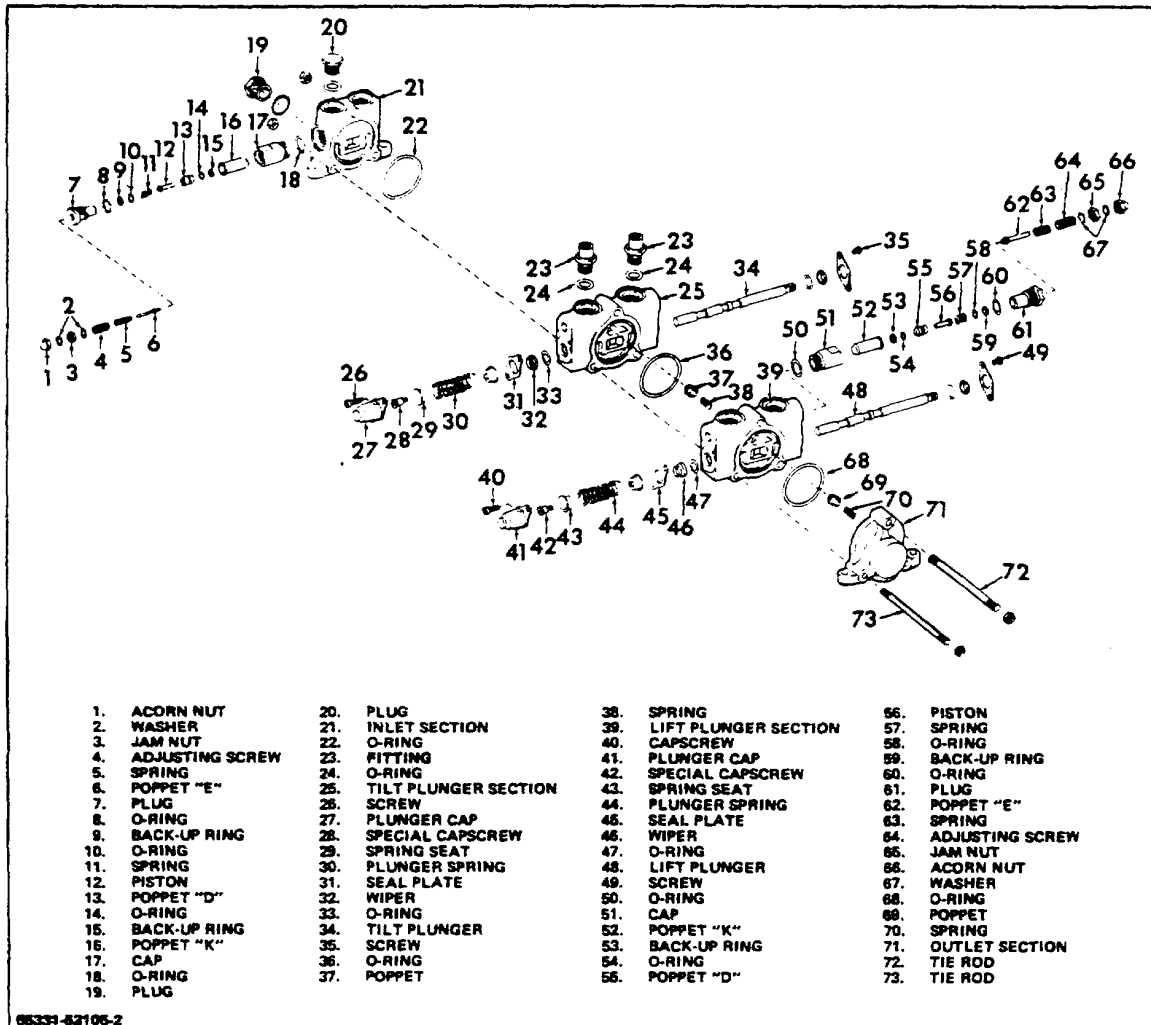

Figure 6-1. Control Valve
5. Remove fitting (Item 23, Fig 6-1) and colored poppet from tilt plunger section of the control valve. Note and record location and position of poppet. It must be installed in the same tilt section